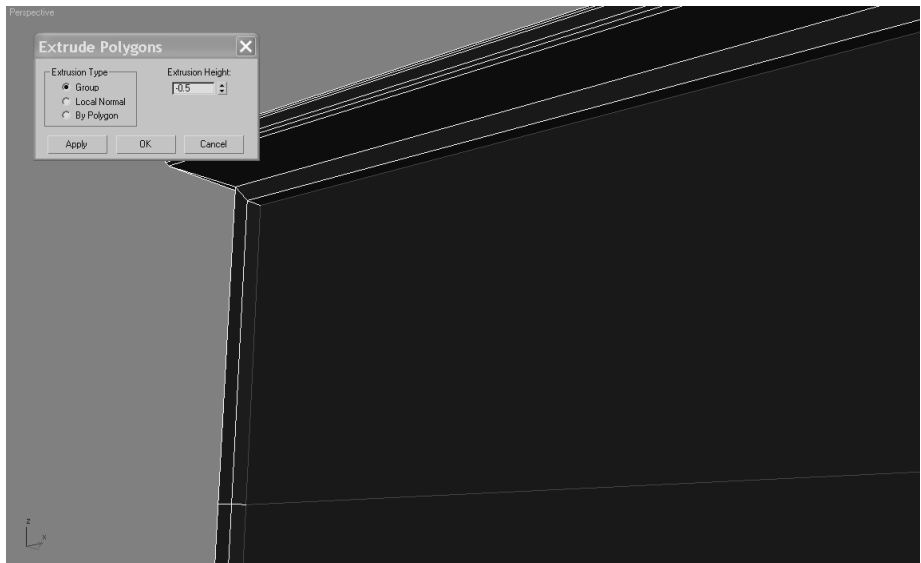

Figure 4.62
2. Go to the Edit Polygons rollout in the Modify panel, and click the Inset Settings button. Set the Inset Amount to 0.6 and keep the Inset Type to Group, as shown here. Click OK. Figure 4.62 shows the result of the Inset operation.